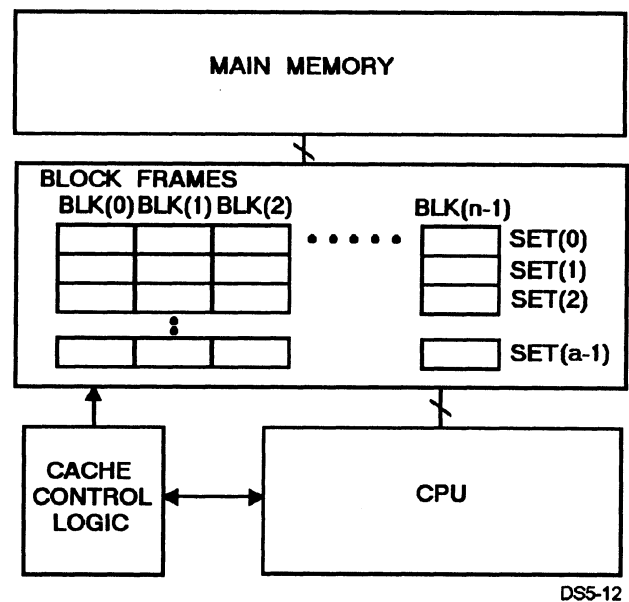

Figure 5-12.—Example of set association mapping used in cache memory.
- **Set associative mapping** —Set associative cache mapping combines the best of direct and associative cache mapping techniques. As with a direct mapped cache, blocks of main memory data will still map into as specific set, but they can now be in any N-cache block frames within each set (fig. 5-12).